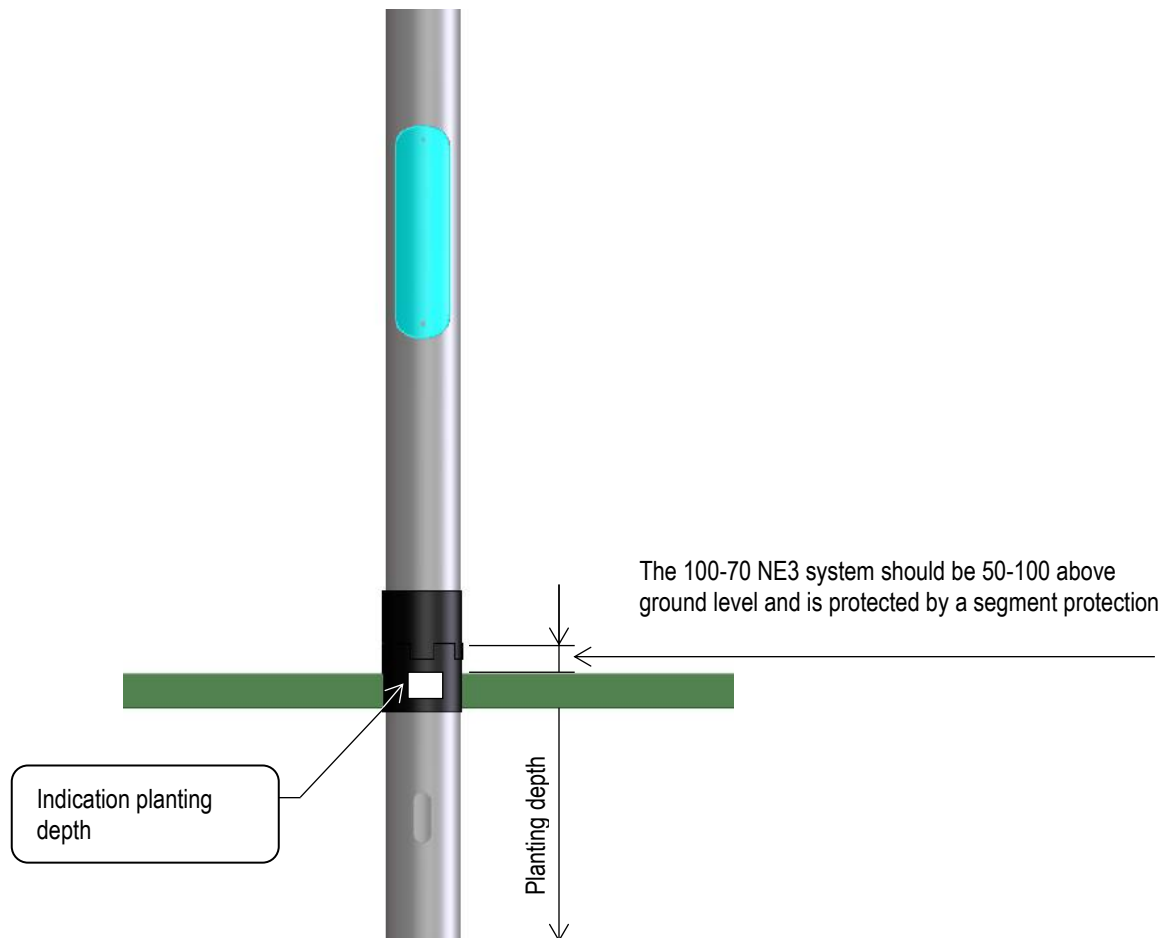

Figure 1 - Installation 100NE3 column
- The planting depth is stated on the drawing (fig.1) and is also indicated on the segment protection. **Do not** remove the packaging (wooden mats) around the NE3 breaking system at ground level until the column has been positioned vertically and at the correct depth in the bottom.